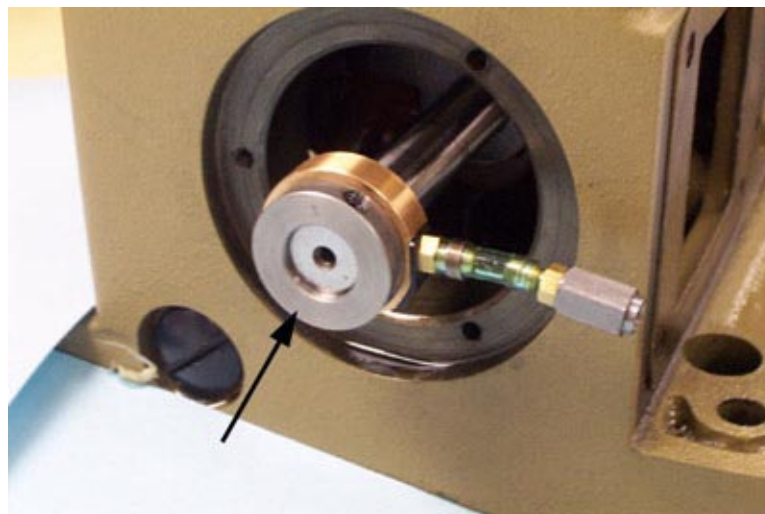

Fig 6
- 2) Install pump onto crankshaft, with hub side, with screws, to the outside. Carefully bend over the tubing and push the pump all the way onto the chankshaft and into the casting. (fig 6).